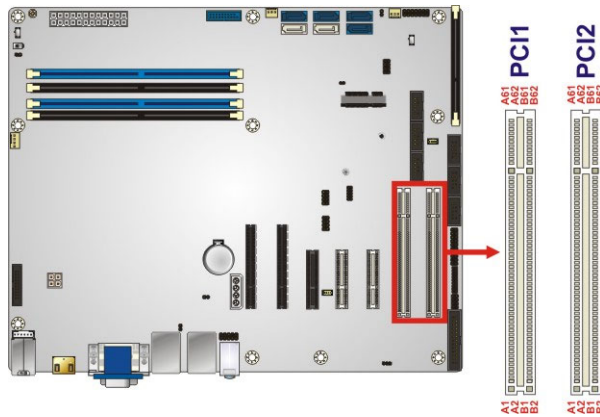

Figure 3-20: PCI Slot Locations
- CN Location:** See **Figure 3-20**